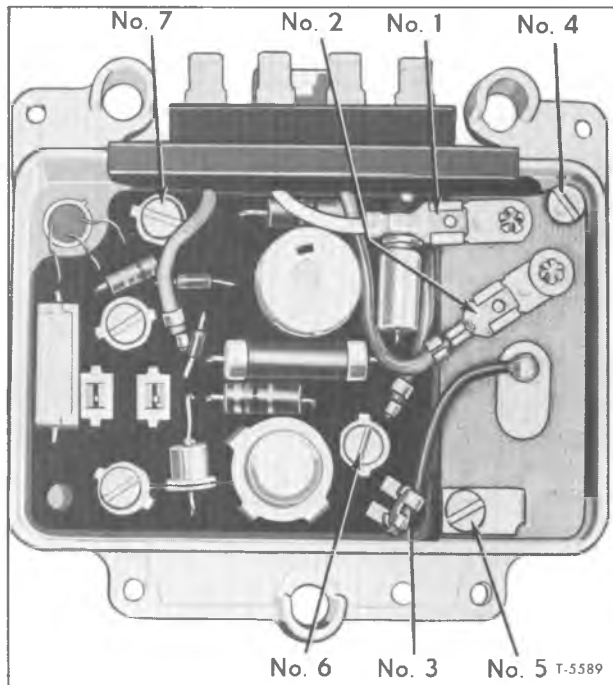

Figure 21—Regulator with Cover Removed
2. Referring to figure 21, remove leads from terminals 1, 2, and 3, then remove screws 4 and 5 which attach relay to base and remove relay.
3. Remove screws (6 and 7, fig. 21) then lift circuit board, heat sink and terminal assembly from the regulator base.